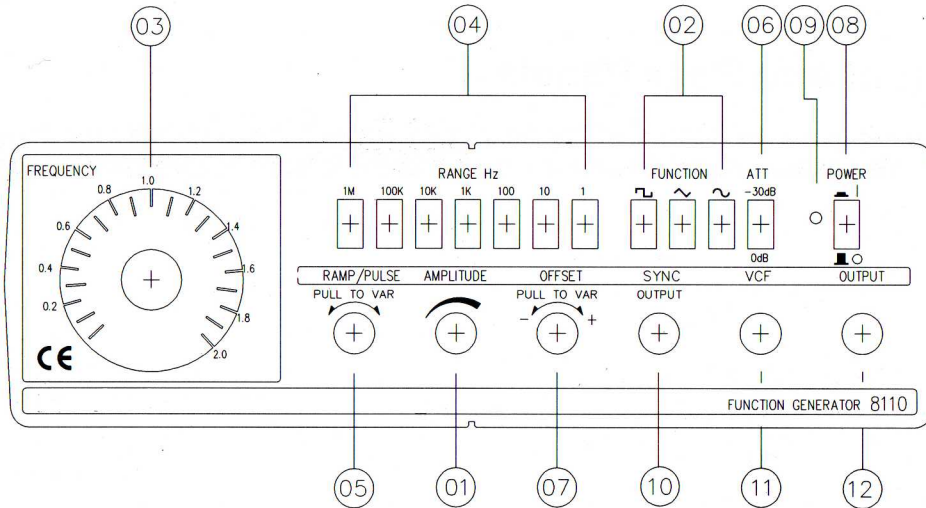
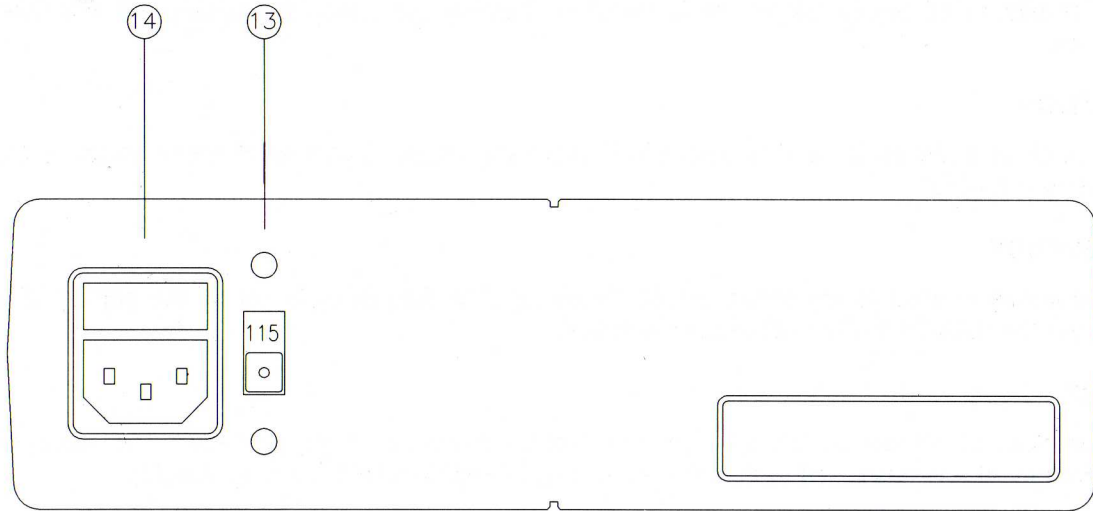

Figure 1 Front Panel
Figure 2 Rear Panel
The following is an explanation of the function of each of the front and rear panel controls and connectors. You should refer to Figure 1 & Figure 2 for the location of each control / connector.
The fuse is located inside the **POWER SOCKET WITH FUSE HOLDER (14)** (refer to Figure 2). You need to change the fuse when: